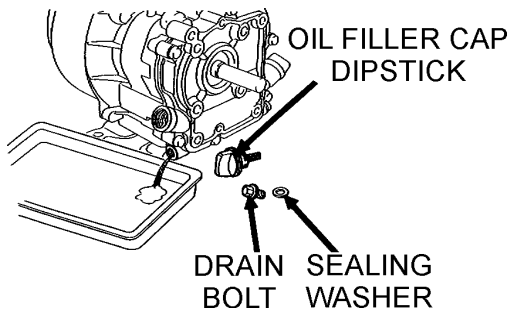

Figure 16. Engine Oil (Draining)
2. Drain the engine oil when the oil is **warm** as shown in Figure 16.